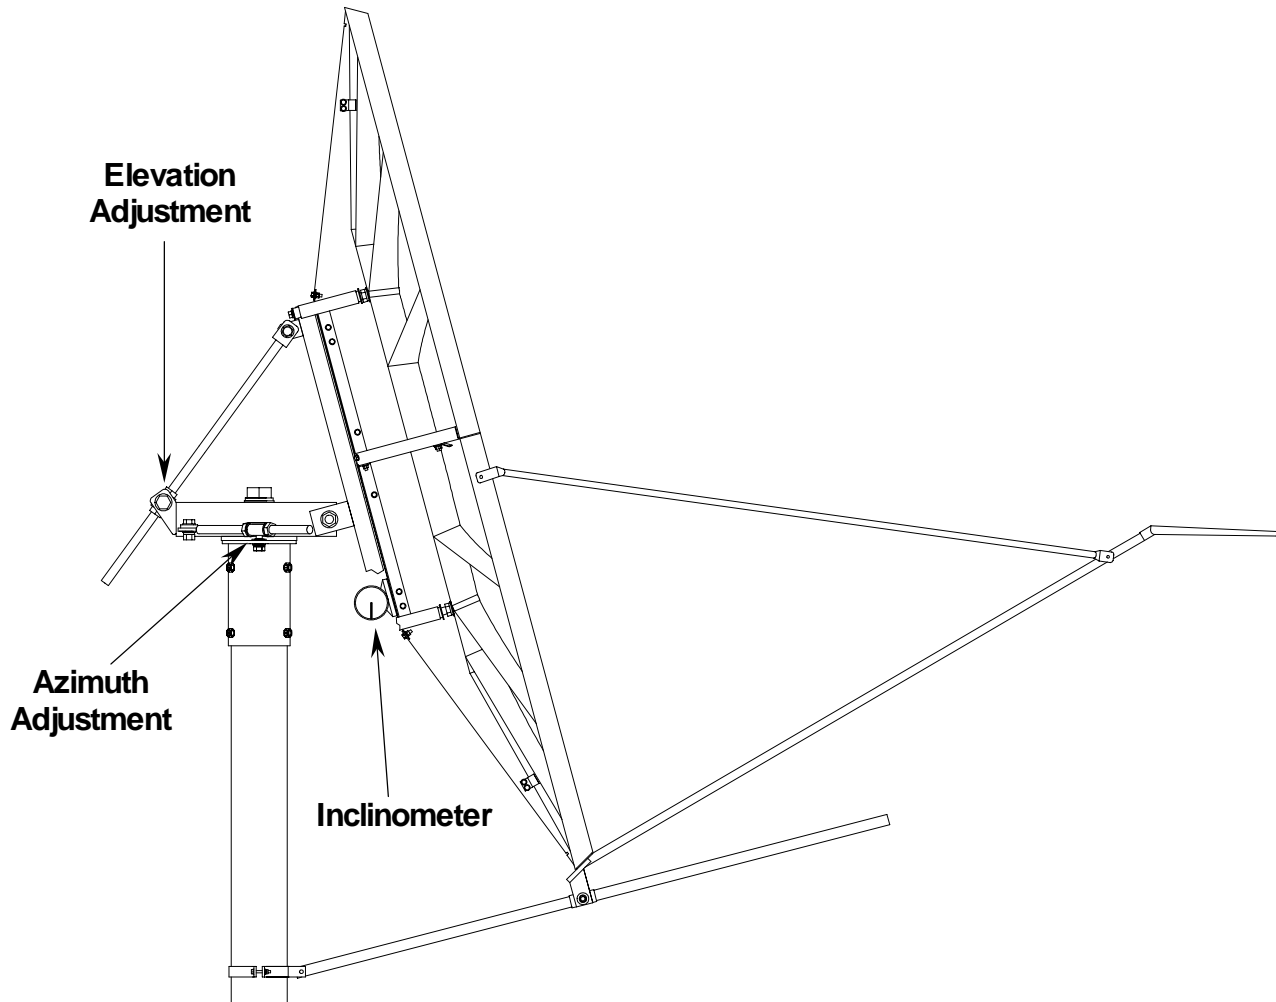

Figure 3.
Step 1: Place an inclinometer on the back reflector ring to read the initial rough elevation as shown in figure 3. Note that the look angle of the reflector is the reading on the inclinometer plus 17.35° .